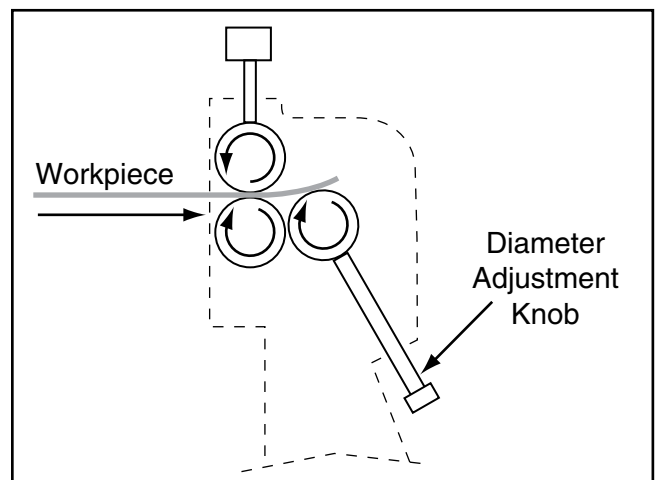

Figure 17. Rear roller slightly raised to start curve.
4. Use diameter adjustment knobs to raise rear roller (see **Figure 17**).